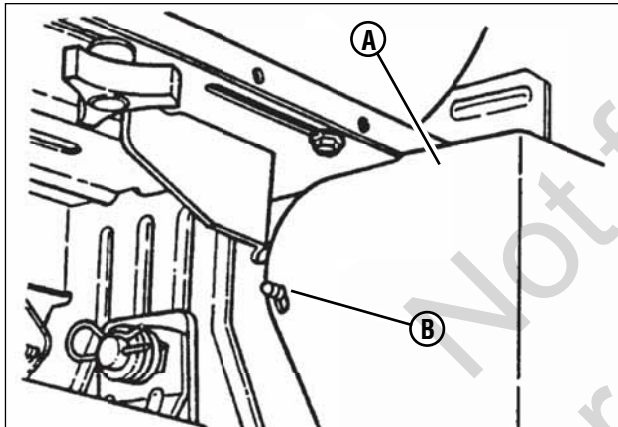

Figure 47: Battery cover
1. Carefully pull each side of the battery cover (A, Figure 47) away from the ratchet fasteners (B) and remove the cover.
7. Reinstall the battery cover (A, Figure 47).